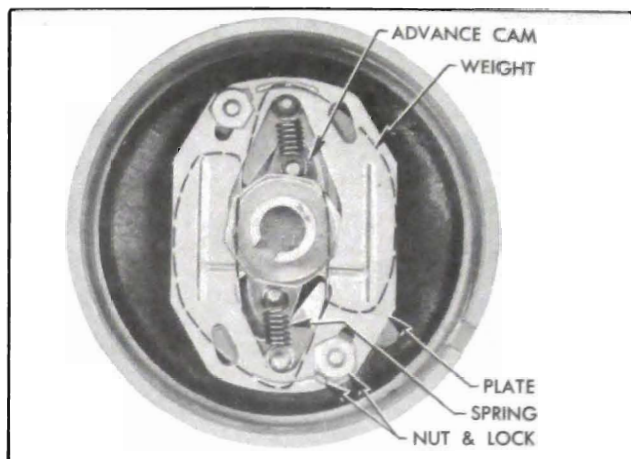

Figure 10-57—Installation of Advance Weights, Cam, Springs and Plate
7. Remove advance weight hold down plate, springs and weights from the shaft plate. Remove advance cam from shaft. See figure 10-57.
nuts. Install advance weight springs on pins. See figure 10-57.